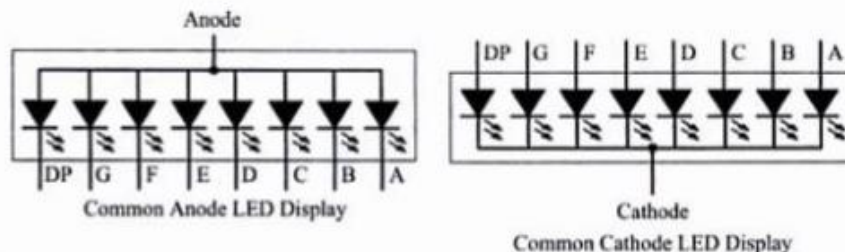

Fig. 2.15 Common anode and cathode configurations of a 7-segment LED Display
- In the **common anode configuration**, the anodes of the 8 segments are connected commonly whereas **in the common cathode configuration**, the 8 LED segments share a common cathode line. **Figure 2.15 illustrates the Common Anode and Cathode configurations.**